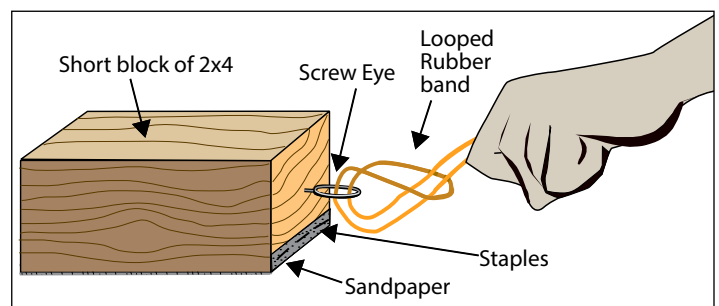

Figure 2: Parts of the Earthquake Machine.
Watch a video of the construction and use of the model: Construction of the Earthquake Machine and see Figure 2.
- 2) Place the sandpaper over the bottom of the block and fold the long edges up on to the ends of the block. Staple the sandpaper to the edges (Figure 2).
- 3) Screw one 12x1-3/16" screw eye into the cut end of the block about 1/2 inch from the base at the edge of the sandpaper. It helps to make a small pilot hole either with a nail or a drill so the screw eye is more easily attached (Figure 2).
- b. Slowly pull the rubber bands parallel to the surface of the sanding belt (Figure 2).